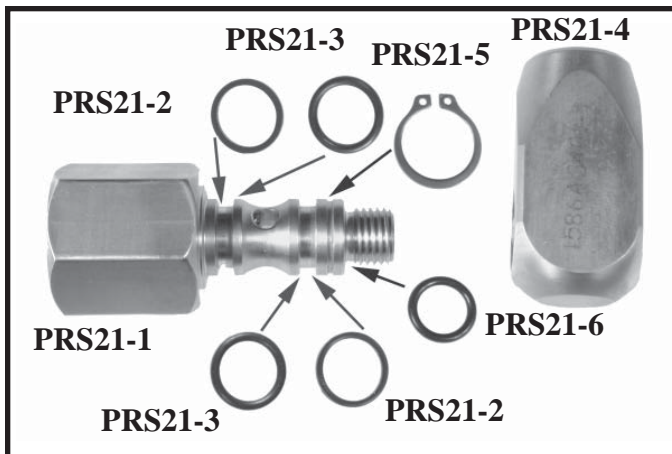

figure 14
9.3. Replace all seals in the SEA fill adapter (PRS21). See figure 14. This consists of three O-rings, two (PRS21-3) and one (PRS21-6), and two back-up rings (PRS21-2).
9.5.1. **NOTE THE ORDER THAT THE PARTS ARE ON THE SHAFT: STARTING FROM THE HEX KNOB — BACK-UP RING (PRS21-2); O-RING (PRS21-3); O-RING (PRS21-3); BACK-UP RING (PRS21-2); SNAP-RING (PRS21-5); O-RING (PRS21-6).** See figure 14.